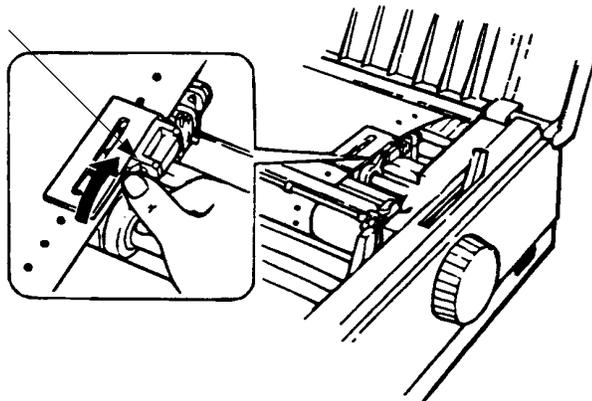

Figure 8-4. Tractor Lever in Lock Position
8. If the tractor spacing does not match the paper width, adjust the tractors as follows. See Figures 8-4 and 8-5.